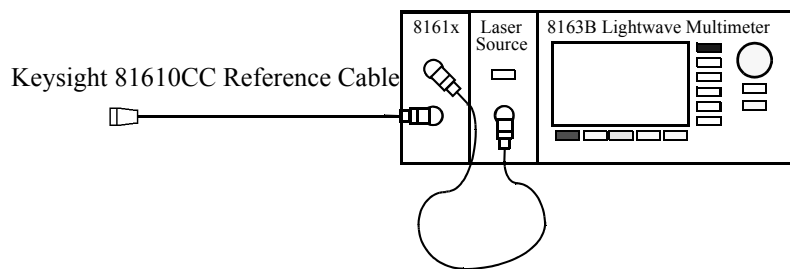

Figure 112 Measuring the Return Loss of the Reference Cable - External Source
- 1 Making sure all the connectors are clean, set up the instrument as shown in Figure 112 on page -192 if you are using an External Source,